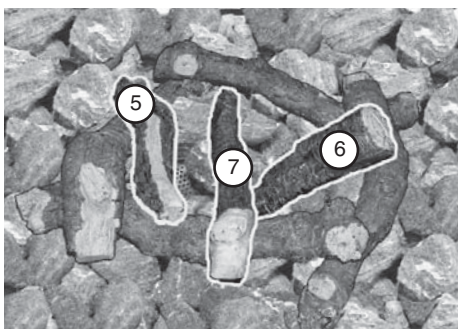

Fig. 15-3
4. Lay the remaining logs across the already positioned logs in an attractive pattern (see Fig. 15-3).